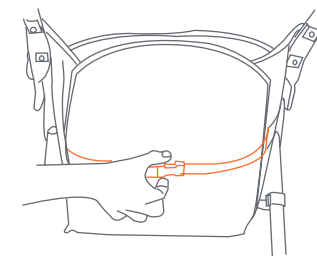
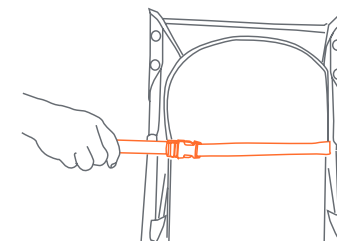

Fig. 15a
Fig. 15b
- 15)** • The seat has a multiple position recline that is controlled by a strap and buckle assembly behind the seat (Fig. 15a). To recline the seat, loosen the strap through the buckle and adjust to the required recline position (Fig. 15b). To place the seat back in a more upright position, press upward on the seat back with one hand while pulling the strap through the buckle with the other. The strap will lock automatically.